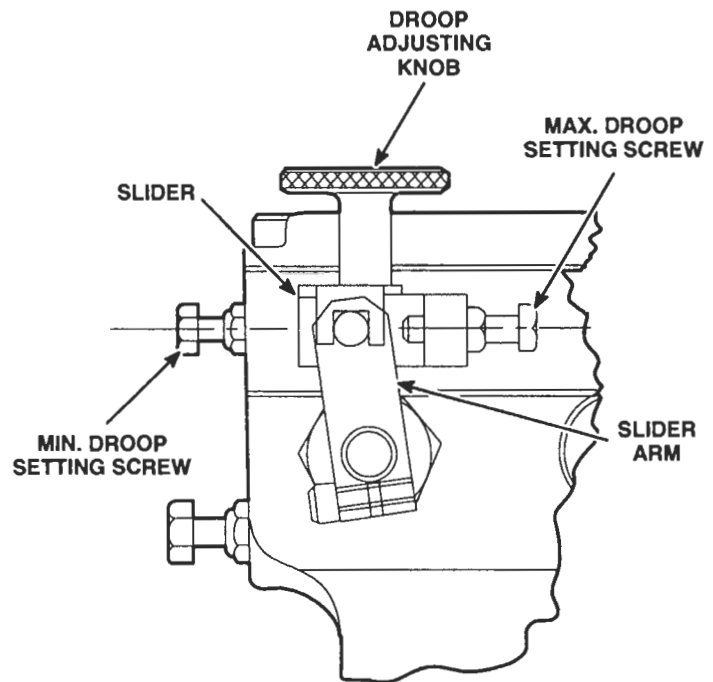

Figure 7. External Droop Control on PSG Isochronous Governor
3. Loosen the droop adjusting knob and move the slider all the way in toward the engine, and then tighten the knob (Figure 7.)